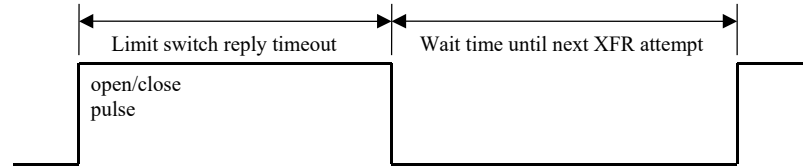

Figure 0-20: Breaker - transition pulse
- 3428 ✓ ✓ ✓ This parameter configures the maximum waiting time for a feedback signal from the ATS switch. If no reply is detected within the configured time, a new transition attempt will be performed after the "Wait time until next XFR attempt" (parameter 3429) has expired (refer to Figure 0-20 on page 91). If the "Max. of transfer attempts" (parameter 3427) is exceeded, a switch failure will be issued.